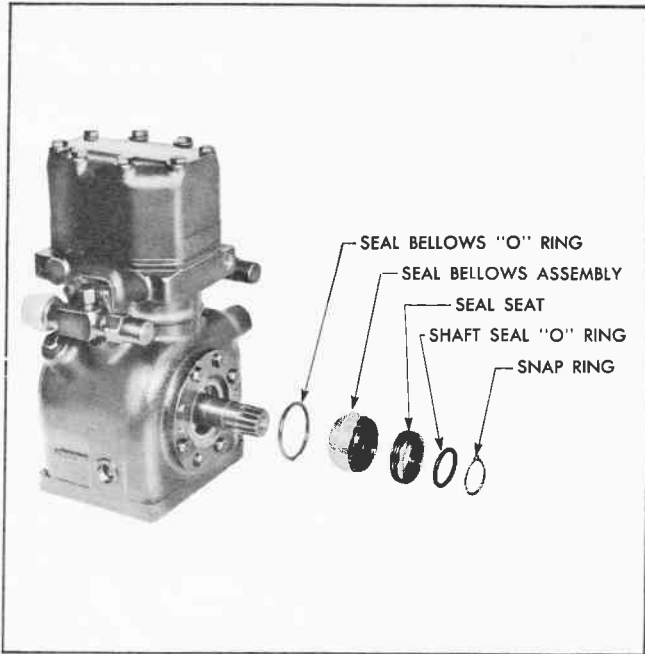

Fig. 7 Exploded View of Compressor Shaft Seal Assembly
2. Procure shaft seal kit #3134106 which contains one each of the following: Shaft Seal "O" Ring, Seal Seat, Seal Bellows "O" Ring, Snap Ring, Seal Bellows Assembly. These parts are illustrated in Fig. 7.